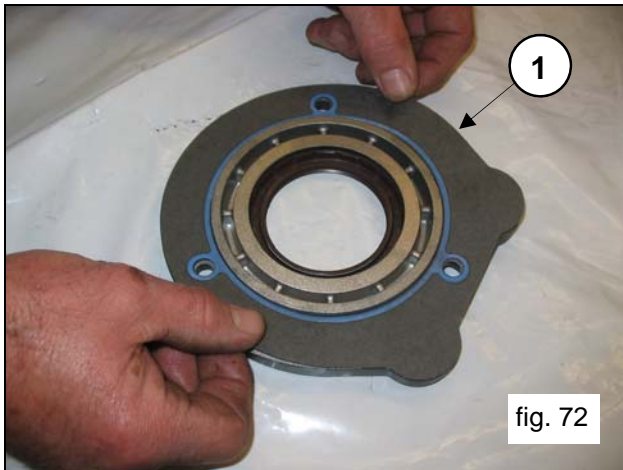
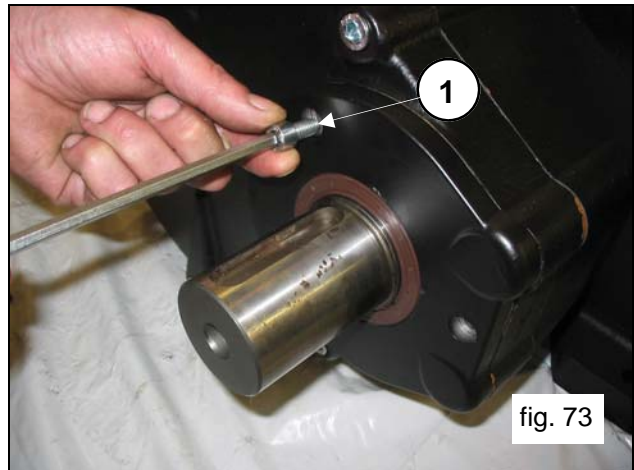

fig. 72
fig. 73
Apply the reducer flange with its gasket to the reducer case (pos.①, fig.72) and fasten it using 3 M8x18 screws (pos.①, fig.73).